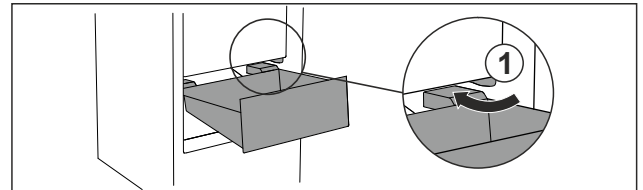

Fig. 106
- ▶ Guide drawer in at an angle around the stoppers Fig. 106 (1).